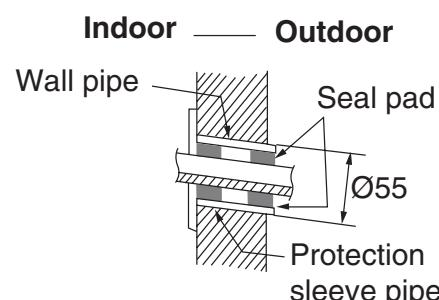

Fig.13
- Make the piping hole ($\Phi 55$) in the wall at a slight downward slant to the outdoor side. (Fig.13)